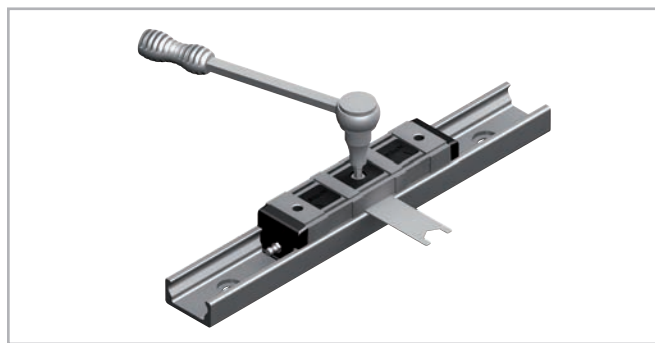

Fig. 98
(7) While holding the correct position of the roller with the adjustment key, the fixing screw can be carefully tightened. The exact tightening torque will be checked later (see fig. 98 and tab. 42).
(8) Move the slider in the rail and check the preload over the entire length of the rail. It should move easily and the slider should not have play at any location of the rail.
(9) For sliders with more than 3 rollers, repeat this process with each eccentric roller. Always start with each roller to be adjusted. Make sure that all rollers have even contact to the tracks.
(10) Now tighten the fixing screws with the specified tightening torque from the table while the flat key holds the angle adjustment of the pin. A special thread in the roller pin secures the set position.